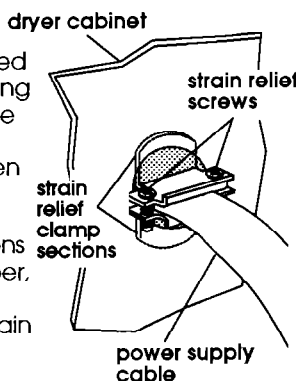

Figure 17
4. Assemble 3/4" U.L.-listed strain relief (U.L. marking on strain relief) into the hole below terminal block opening. Tighten strain relief screws just enough to hold the two clamp sections together. Install copper, 3-wire power supply cable through the strain relief (Figure 17).